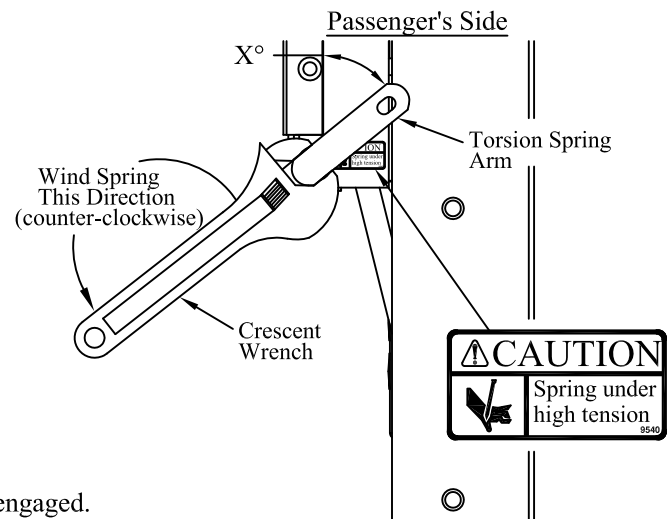

Figure 8: Torsion spring arm installation.
2. Position the passenger side torsion spring arm as indicated in (Figure 8) and (Table 1) for your application.
5. Rotate the passenger side torsion spring arm until it aligns with the hole in the platform. Use an open-end wrench, crescent wrench, or vice grip (Figure 8).